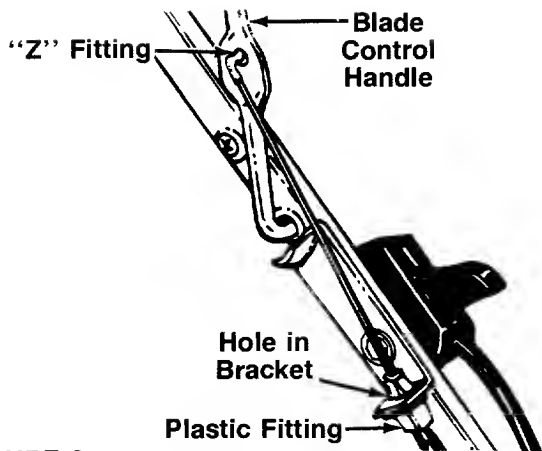

FIGURE 3.
1. The brake cable is attached to the engine, and has a "Z" fitting on the loose end. Route the brake cable below the lower handle. Place end of cable through the hole in the bracket as shown in figure 3. Be careful not to bend or kink the cable at any time. Push the plastic fitting until it locks into the hole in the bracket.
2. Hook the "Z" end of the brake cable into the hole in the blade control handle from the inside to the outside as shown in figure 3.